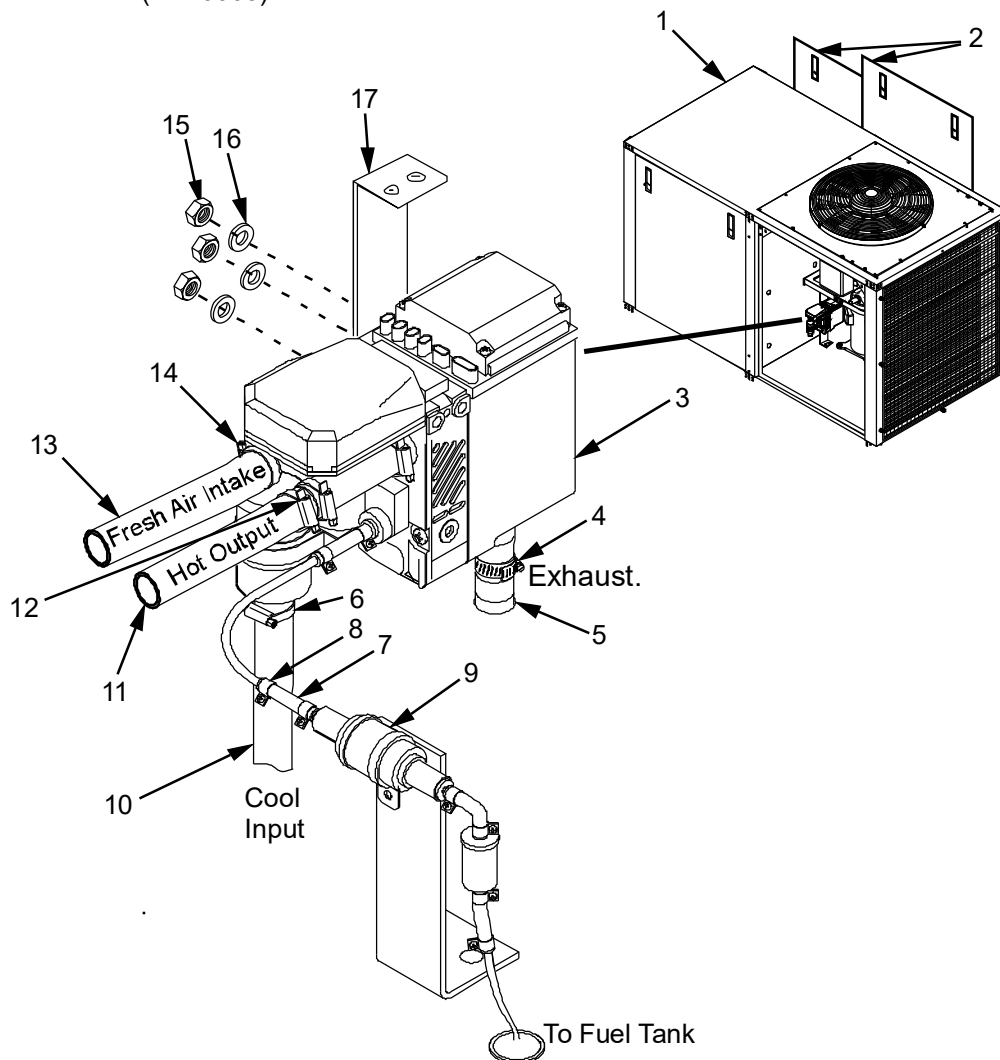

Figure 1. Auxiliary Heater Replace.
1. Verify that ECU (Figure 1, Item 1) has been shut down in accordance with ECU Shut Down Procedure (WP 0005).
2. Unlatch and remove front and rear access panels (Figure 1, Item 2) and set aside.
3. Loosen hose clamp (Figure 1, Item 8) on Auxiliary heater fuel line (Figure 1, Item 7) at the fuel pump (Figure 1, Item 9) and disconnect fuel line (Figure 1, Item 7). Guide fuel line (Figure 1, Item 7) to spill bucket and allow fuel to drain out of system.
4. Loosen hose clamp (Figure 1, Item 6) that secures cool fluid input hose (Figure 1, Item 10) on the Auxiliary heater body (Figure 1, Item 3) and disconnect cool fluid input hose (Figure 1, Item 10).
5. Loosen spring clamp (Figure 1, Item 14) that secures fresh air intake hose (Figure 1, Item 13) to the Auxiliary heater body (Figure 1, Item 3). Remove fresh air intake hose (Figure 1, Item 13) from the Auxiliary heater body (Figure 1, Item 3).
6. Loosen spring clamp (Figure 1, Item 12) that secures hot output hose (Figure 1, Item 11) to the Auxiliary heater body (Figure 1, Item 3). Remove hot output hose (Figure 1, Item 11) from the heater body.
7. Loosen spring clamp (Figure 1, Item 4) that secures exhaust hose (Figure 1, Item 5). Remove exhaust hose (Figure 1, Item 5) from the Auxiliary heater body (Figure 1, Item 3).
8. Remove and retain three nuts (Figure 1, Item 15) and washers (Figure 1, Item 16) that secure Auxiliary heater body (Figure 1, Item 3) to Auxiliary heater tank mounting bracket (Figure 1, Item 17).
9. Remove the Auxiliary heater body (Figure 1, Item 3) from the ECU enclosure.
1. Align Auxiliary heater body (Figure 1, Item 3) with proper holes on Auxiliary heater tank mounting bracket (Figure 1, Item 17) and secure using three nuts (Figure 1, Item 15) and washers (Figure 1, Item 16).
2. Connect Auxiliary heater fuel line (Figure 1, Item 7) to fuel pump (Figure 1, Item 9). Secure with hose clamp (Figure 1, Item 8).
3. Connect cool fluid input hose (Figure 1, Item 10) to proper port on Auxiliary heater body (Figure 1, Item 3). Secure with hose clamp (Figure 1, Item 6).
4. Connect fresh air intake hose (Figure 1, Item 13) to proper port on Auxiliary heater body (Figure 1, Item 3). Secure with spring clamp (Figure 1, Item 14).
5. Connect exhaust hose (Figure 1, Item 5) to proper port on Auxiliary heater body (Figure 1, Item 3) and secure with spring clamp (Figure 1, Item 4).
6. Connect hot output hose (Figure 1, Item 11) to the Auxiliary heater body (Figure 1, Item 3). Secure with spring clamp (Figure 1, Item 12).
9. Install and secure front and rear access panels (Figure 1, Item 2).